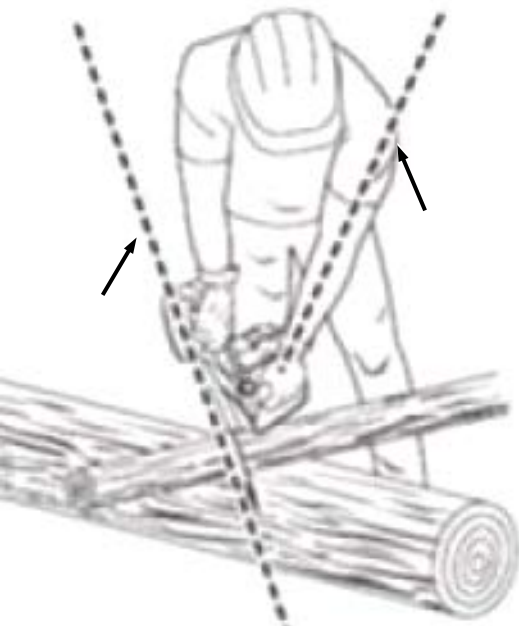

Figure 15
- Keep left arm with elbow locked in a "straight arm" position to withstand any Kickback force (**Figure 15**).